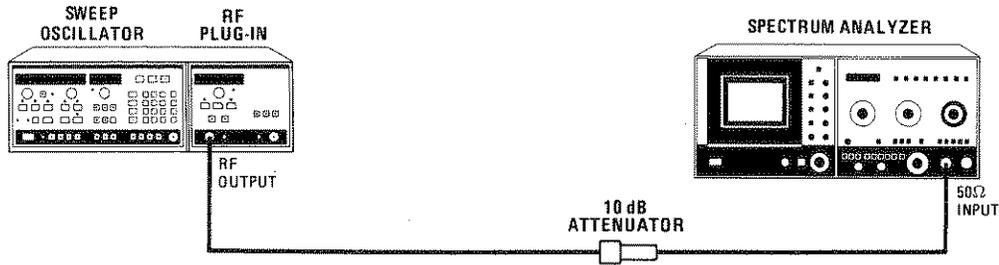

Figure 4-18. AM ON/OFF Ratio and Square Wave Symmetry Test Setup
1. Connect equipment as shown in Figure 4-18. Press 8350A **INSTR PRESET**, **CW 1 GHz** and engage **MOD**. Set 83595A **POWER LEVEL** to +10 dBm.